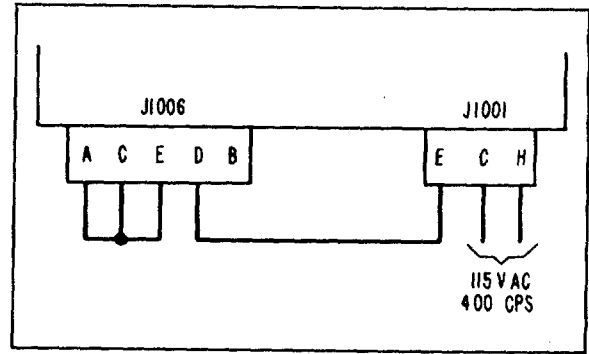

Figure 9-4B. Connector Circuits, Servo Test
a. Make connections to J1001 and J01006 as shown in figure 9-4B. Then connect jumpers at plug for J1006 between pins A, C, and E. Connect jumper plug for J1001 pin E to pin D of plug at J1006. Connect 115 volts 400 cps to J1001 between pin C (hot) and pin H (common).